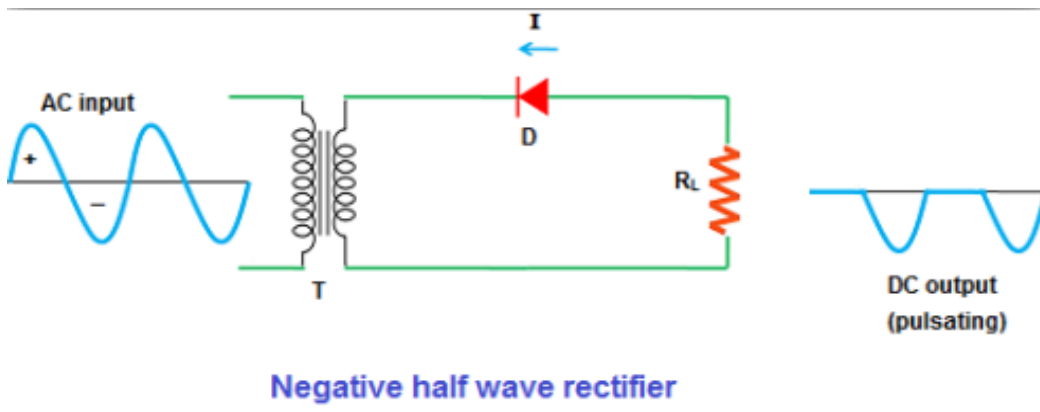

Figure 6 Negative half-wave rectifier
When reversing the diode in a negative Half-Wave Rectifier, the diode enters reverse bias mode, allowing no current to pass through it during the positive half cycle of the AC voltage; in this case, the diode appears as an open circuit, and the output voltage is nil. During the positive half cycle of the AC voltage, current flow will be blocked. The final output voltage waveform on the secondary side (DC) is shown **in Figure 6**